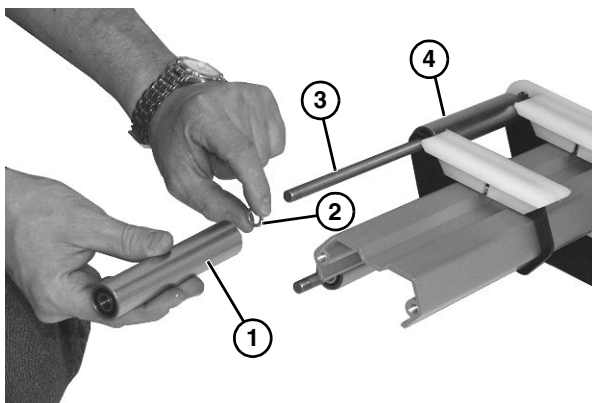

Figure 60
- Remove roller assembly (**Figure 60, item 1**) and washer (**Figure 60, item 2**) from axle shaft (**Figure 60, item 3**).
- Remove remaining roller assembly components (**Figure 60, item 4**) on opposite side.